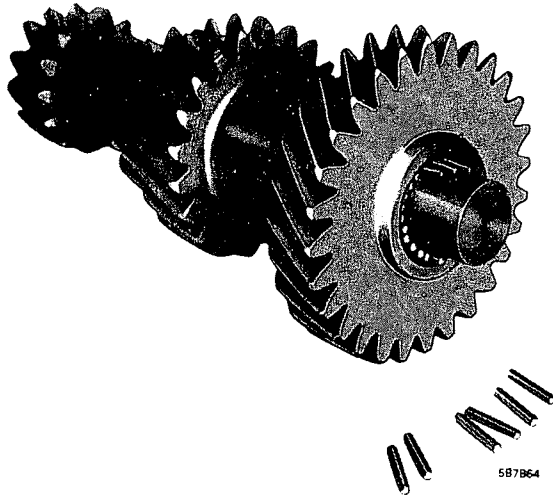

Figure 7B-64 - Loading Countergear Bearing
5. Load the mainshaft pilot bearings (14) into the clutch gear cavity and assemble the 4th speed blocker ring onto the clutch gear clutching surface with its clutching teeth toward the gear. See Figure 7B-65.